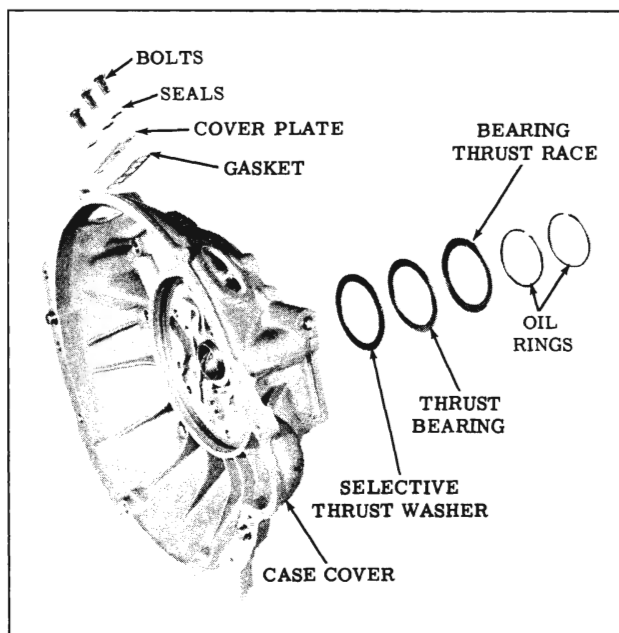

Fig. 3-275 Case Cover Assembly
1. Remove two lock type oil rings from the case cover hub. (Fig. 3-275)
1. Install the case cover plate and gasket using the three attaching bolts and bolt head washer seals, torque 18-20 ft. lbs. (Fig. 3-275)